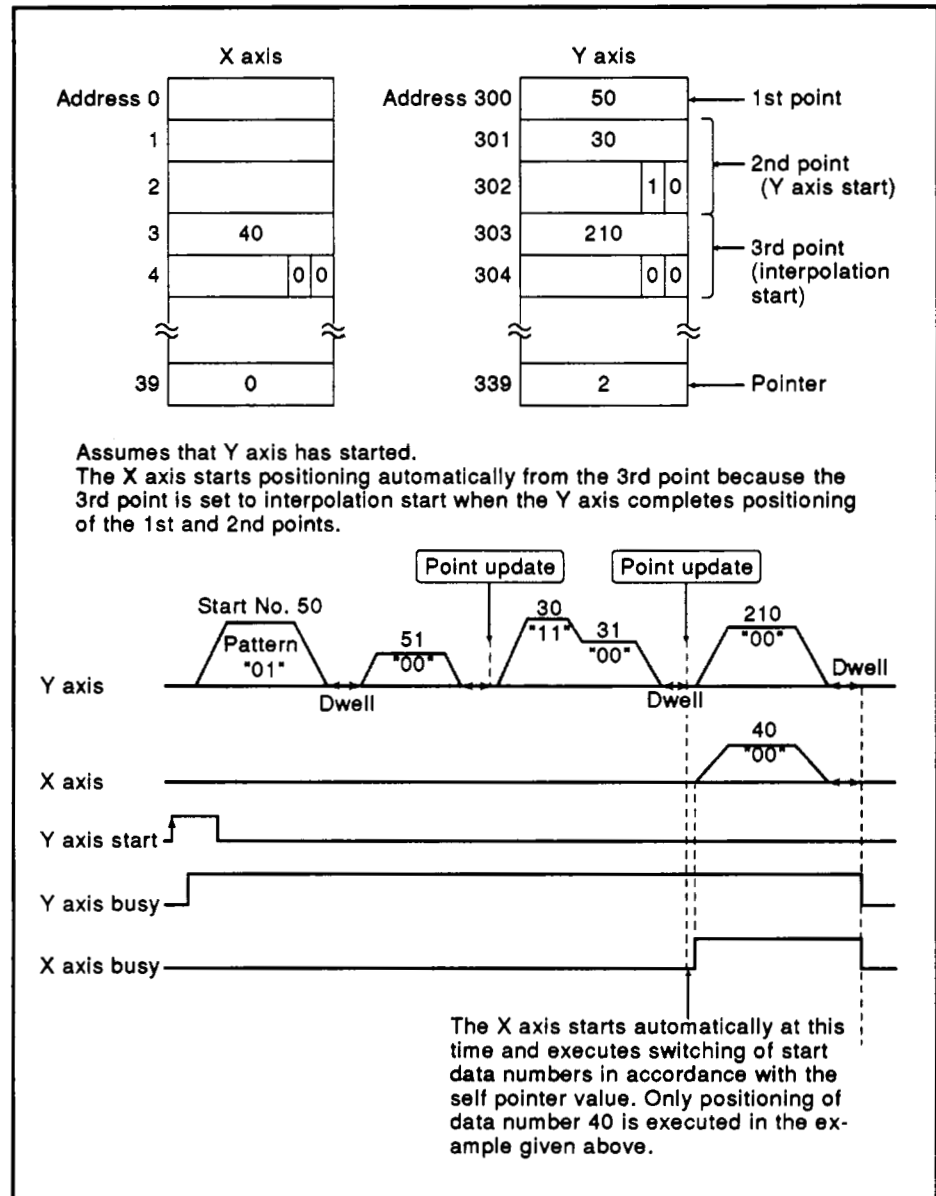

Fig. 3.33 Start Data Example 3
- 3) When the start axis is set to interpolation start (00) or both-axes start (11) and the other axis is not set to BUSY, the other axis starts positioning automatically using the start data number set at the point that is the same as its own axis (refer to Fig. 3.33).